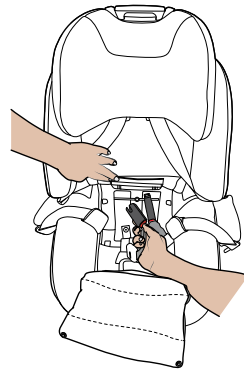

Figure 8
Step 2. Unclip the ISOGO connectors from the storage rod by pushing the buckle button (Figure 8).